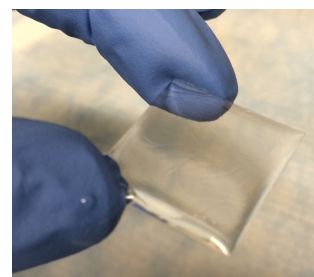

Figure 7. DPX covering tissue mounted on a PLL-coated cover glass.
12. DPX application. When the last xylene soak is completed, remove the cover glass from the xylene jar (while maintaining the known orientation of tissue-to-the-front and top-up) and firmly hold it between your thumb and index finger such that the surface with the tissue is horizontal. Immediately add 7 ± 1 drops of DPX on top of the tissue. The tissue should become transparent. (Figure 7)